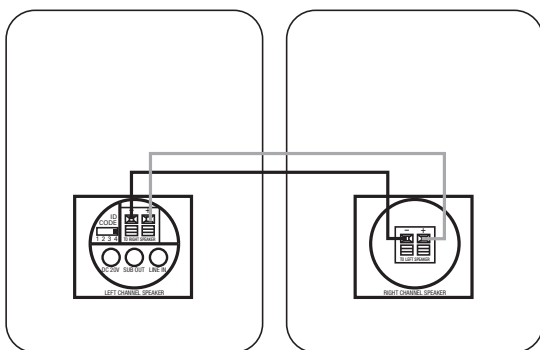

Figure 3.
See Figure 3. Please note that the speaker wire supplied features a polarity stripe to help distinguish its two conductors. Use this polarity stripe to ensure that you are connecting the positive (+) terminal on one speaker to the positive (+) terminal on the other, and the negative (-) to the negative (-). It does not matter whether you use the striped conductor for connecting the positive (+) terminals or the negative (-) terminals.
Step 3. Connect the speaker wire (included) to the push terminals on the active speaker ⑥ and the push terminals on the rear of the passive speaker ⑩, as shown in Figure 3. Please note that the speaker wire supplied features a polarity stripe to help distinguish its two conductors. Use this polarity stripe to ensure that you are connecting the positive (+) terminal on one speaker to the positive (+) terminal on the other, and the negative (-) to the negative (-). It does not matter whether you use the striped conductor for connecting the positive (+) terminals or the negative (-) terminals.
Step 4. Plug the transmitter module ⑫ and active speaker ⑦ into the wall outlet. Make sure the transmitter's antenna ⑪ is extended upward.
Step 5. Make sure the ID code setting on the transmitter ⑬ is set to the same setting as that on the active speaker ⑤. See Page 8 of this manual for more information on ID codes. If necessary, configure your receiver to activate the preamp level outputs for the main/front channels (consult your source's owner's manual for specific instructions).
Step 3. Connect the speaker wire (included) to the push terminals on the active speaker ⑥ and the push terminals on the rear of the passive speaker ⑩, as shown in Figure 3. Please note that the speaker wire supplied features a polarity stripe to help distinguish its two conductors. Use this polarity stripe to ensure that you are connecting the positive (+) terminal on one speaker to the positive (+) terminal on the other, and the negative (–) to the negative (–). It does not matter whether you use the striped conductor for connecting the positive (+) terminals or the negative (–) terminals.
Step 4. Plug the transmitter module ⑫ and active speaker ⑦ into the wall outlet, using the correct power supply and power cord. Make sure the transmitter’s antenna ⑪ is extended upward.